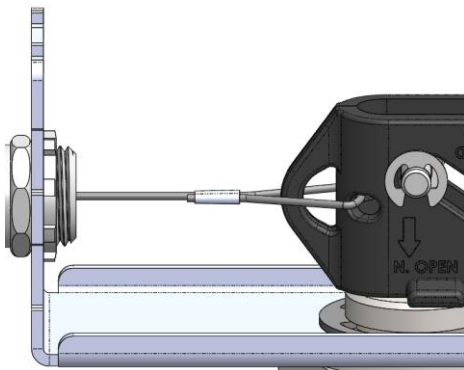
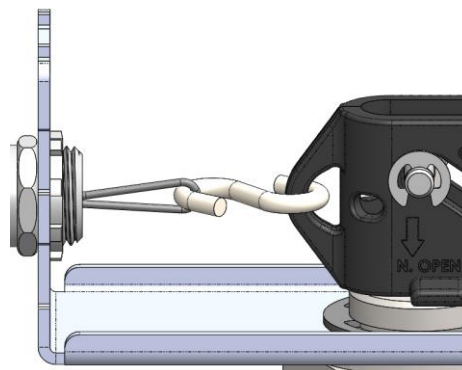

Figure 1 – Direct cable connection
Figure 2 – S-Hook connection
- b. Connect the cable from the control unit to the cam latch by either 1) feeding the cable through the front hole of the cam latch and securing the cable with a crimp (see Figure 1), or 2) crimping a loop in the cable and using the provided s-hook to connect it to the cam latch (see Figure 2, MEC recommends crimping the s-hook ends closed). In either case, insure the loop and crimp do not prevent the cam latch from achieving full movement or catch on the routing conduit.